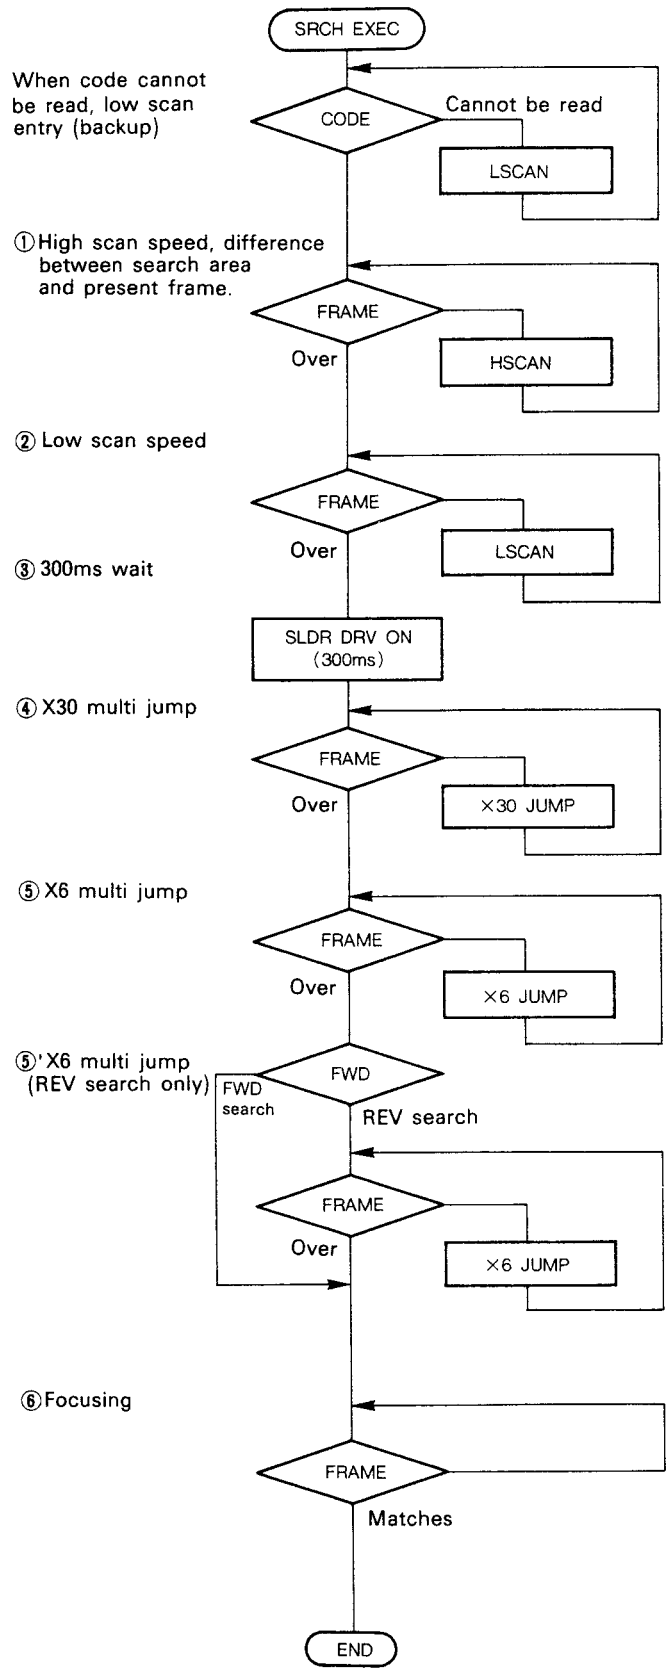

Fig. 5-1-4 Frame search operation flowchart
- SEARCH operation \Rightarrow Fig. 5-1-4